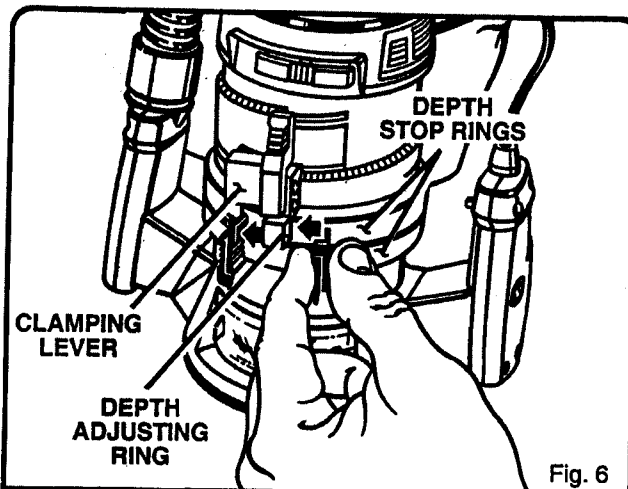

Fig. 6
2. Using depth adjusting ring, set cutter at lowest desired depth of cut. Lock clamping lever. Position bottom depth stop ring against depth adjusting ring. Hold depth stop ring against depth adjusting ring and lock. See Figure 6. **Note:** Depth stop ring ends snap together to lock.
3. Unlock clamping lever and move depth adjusting ring to set cutter at second desired depth of cut. Lock clamping lever. Position top depth stop ring against depth adjusting ring. Hold depth stop ring against depth adjusting ring and lock. See Figure 6. **Note:** Depth stop ring ends snap together to lock.